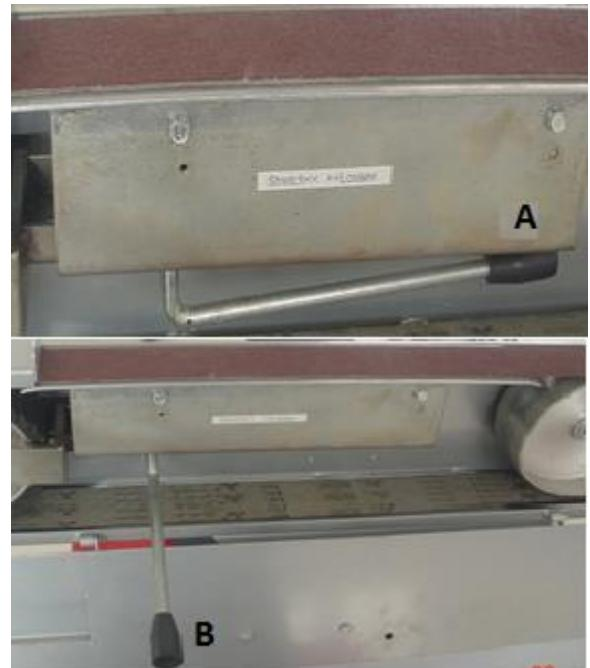

Fig. 8
4. Loosen the belt by moving the belt tension handle (fig.8) from position A to position B.